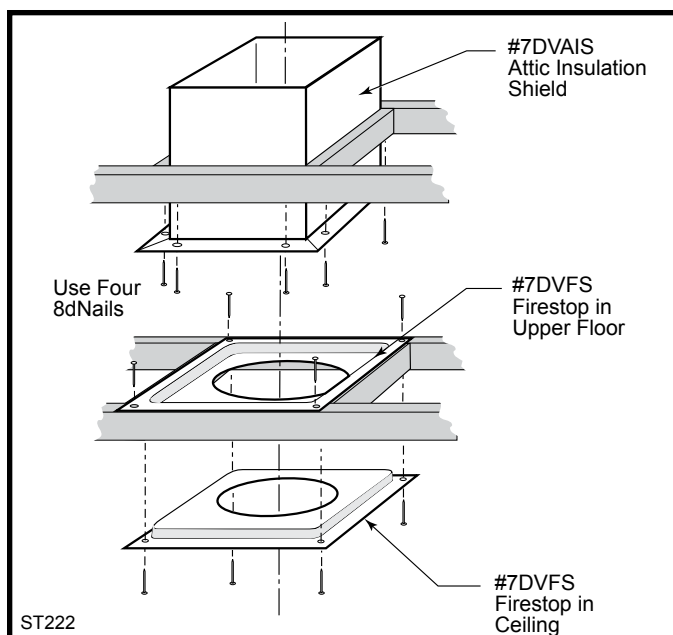

Figure 31 Install firestops and attic insulation shield.
6. Install firestop(s) #7DVFS and Attic Insulation Shield #7DVAIS as needed. (Figure 31) If there is a room above ceiling level, a firestop must be installed on both the bottom and top sides of the ceiling joists. If an attic is above ceiling level, an attic insulation shield must be installed.